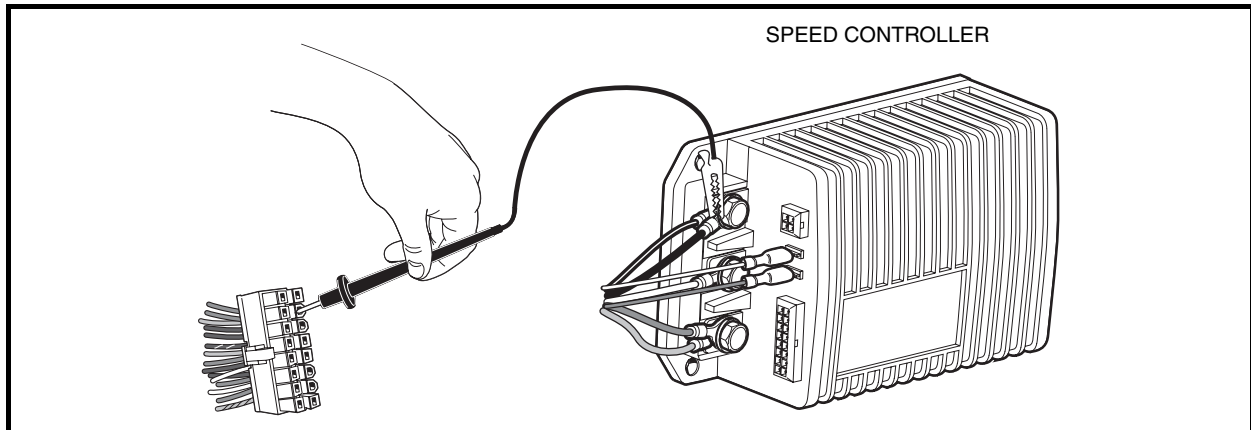

Figure 18-12 Pin 7 Test
4. Place a jumper wire with an alligator clip between the B– terminal of the speed controller (use alligator clip for this connection) and pin 7 (orange/white wire) of the 16-pin connector (**Figure 18-12, Page 18-24**). **See following CAUTION.**